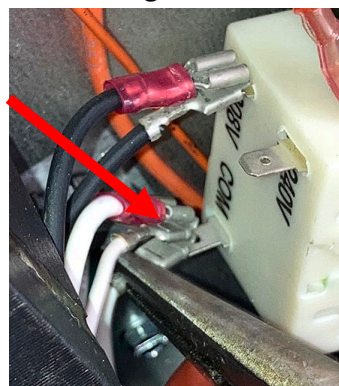

Figure 35
- q. Reattach the white wires to the transformer (see Figure 35).